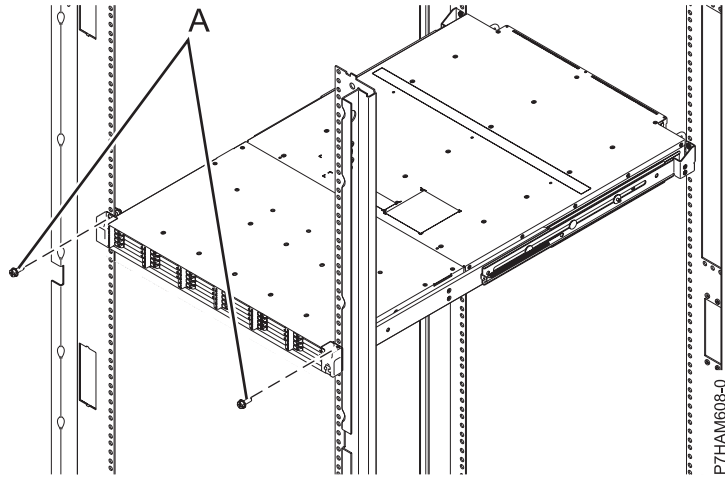

Figure 16. Securing the front of the enclosure to the rack
- e. Secure the front of the enclosure to the rack flanges by applying the securing screws (A) through the top open holes in each bracket and into the top EIA holes, as shown in Figure 16 on page 15.